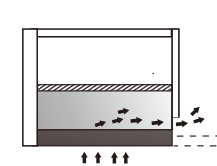
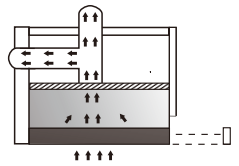

Fig.14
Fig.15
4. The hood may be installed in the filtering(Fig.14) or the ducting version(Fig.15).